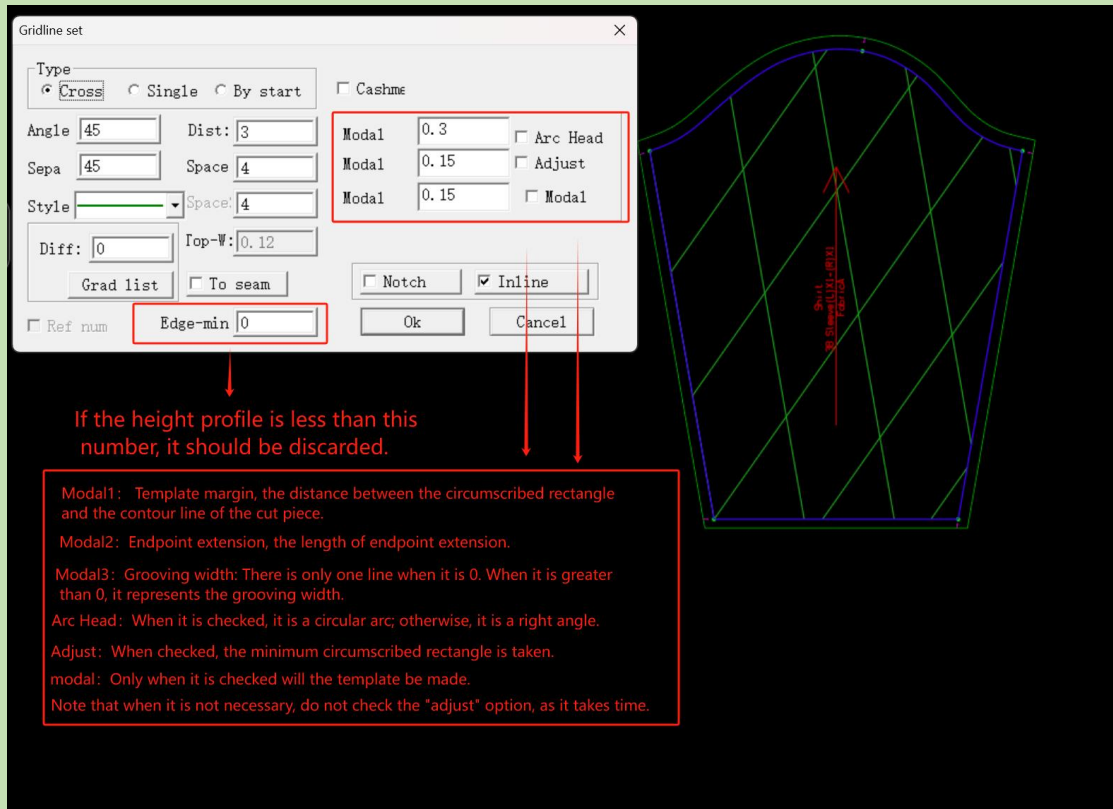

Figure10-18
4. The Function of Quilting Line Template as shown in Figure 10-18.